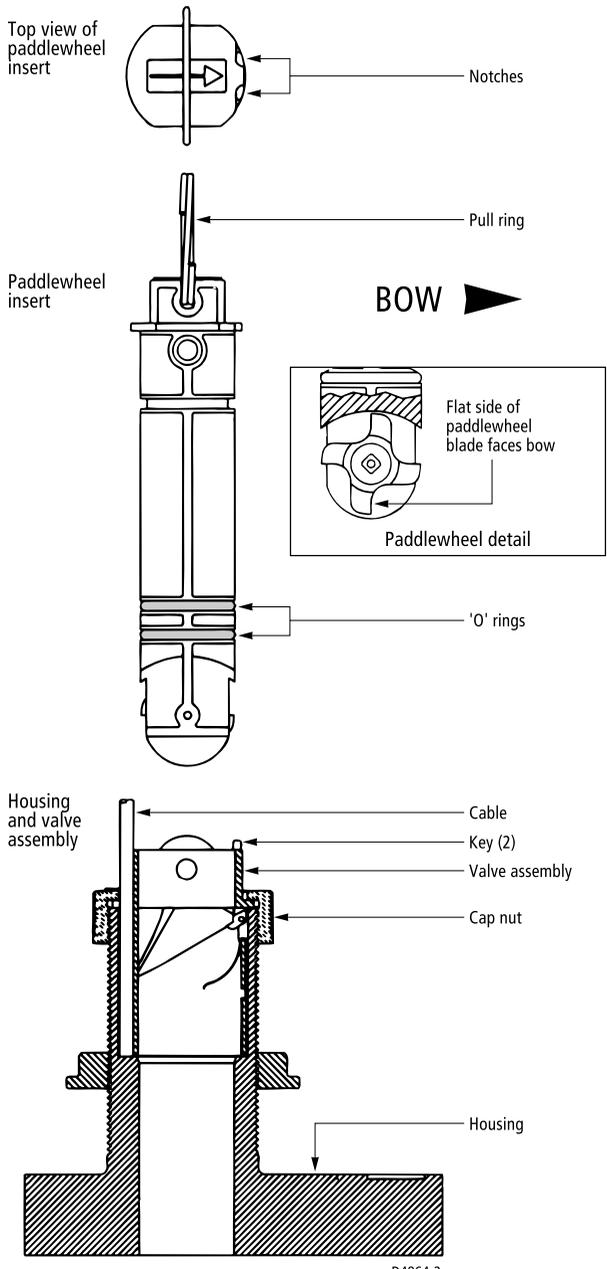

Figure 2-10: Servicing the Paddle Wheel Insert and Valve Assembly
11. After the sealant cures, inspect and lubricate the O-rings on the paddle wheel insert with silicone grease or petroleum jelly (see *Figure 2-10*).
1. Drill a 1/8" (3 mm) pilot hole perpendicular to the waterline from inside the hull. If there is a rib or strut near the selected mounting location, drill from the outside (see *Figure 2-10*). If the hole is drilled in the wrong location, drill a second hole in a better location. Apply masking tape to the outside of the hull over the incorrect hole and fill it with epoxy.